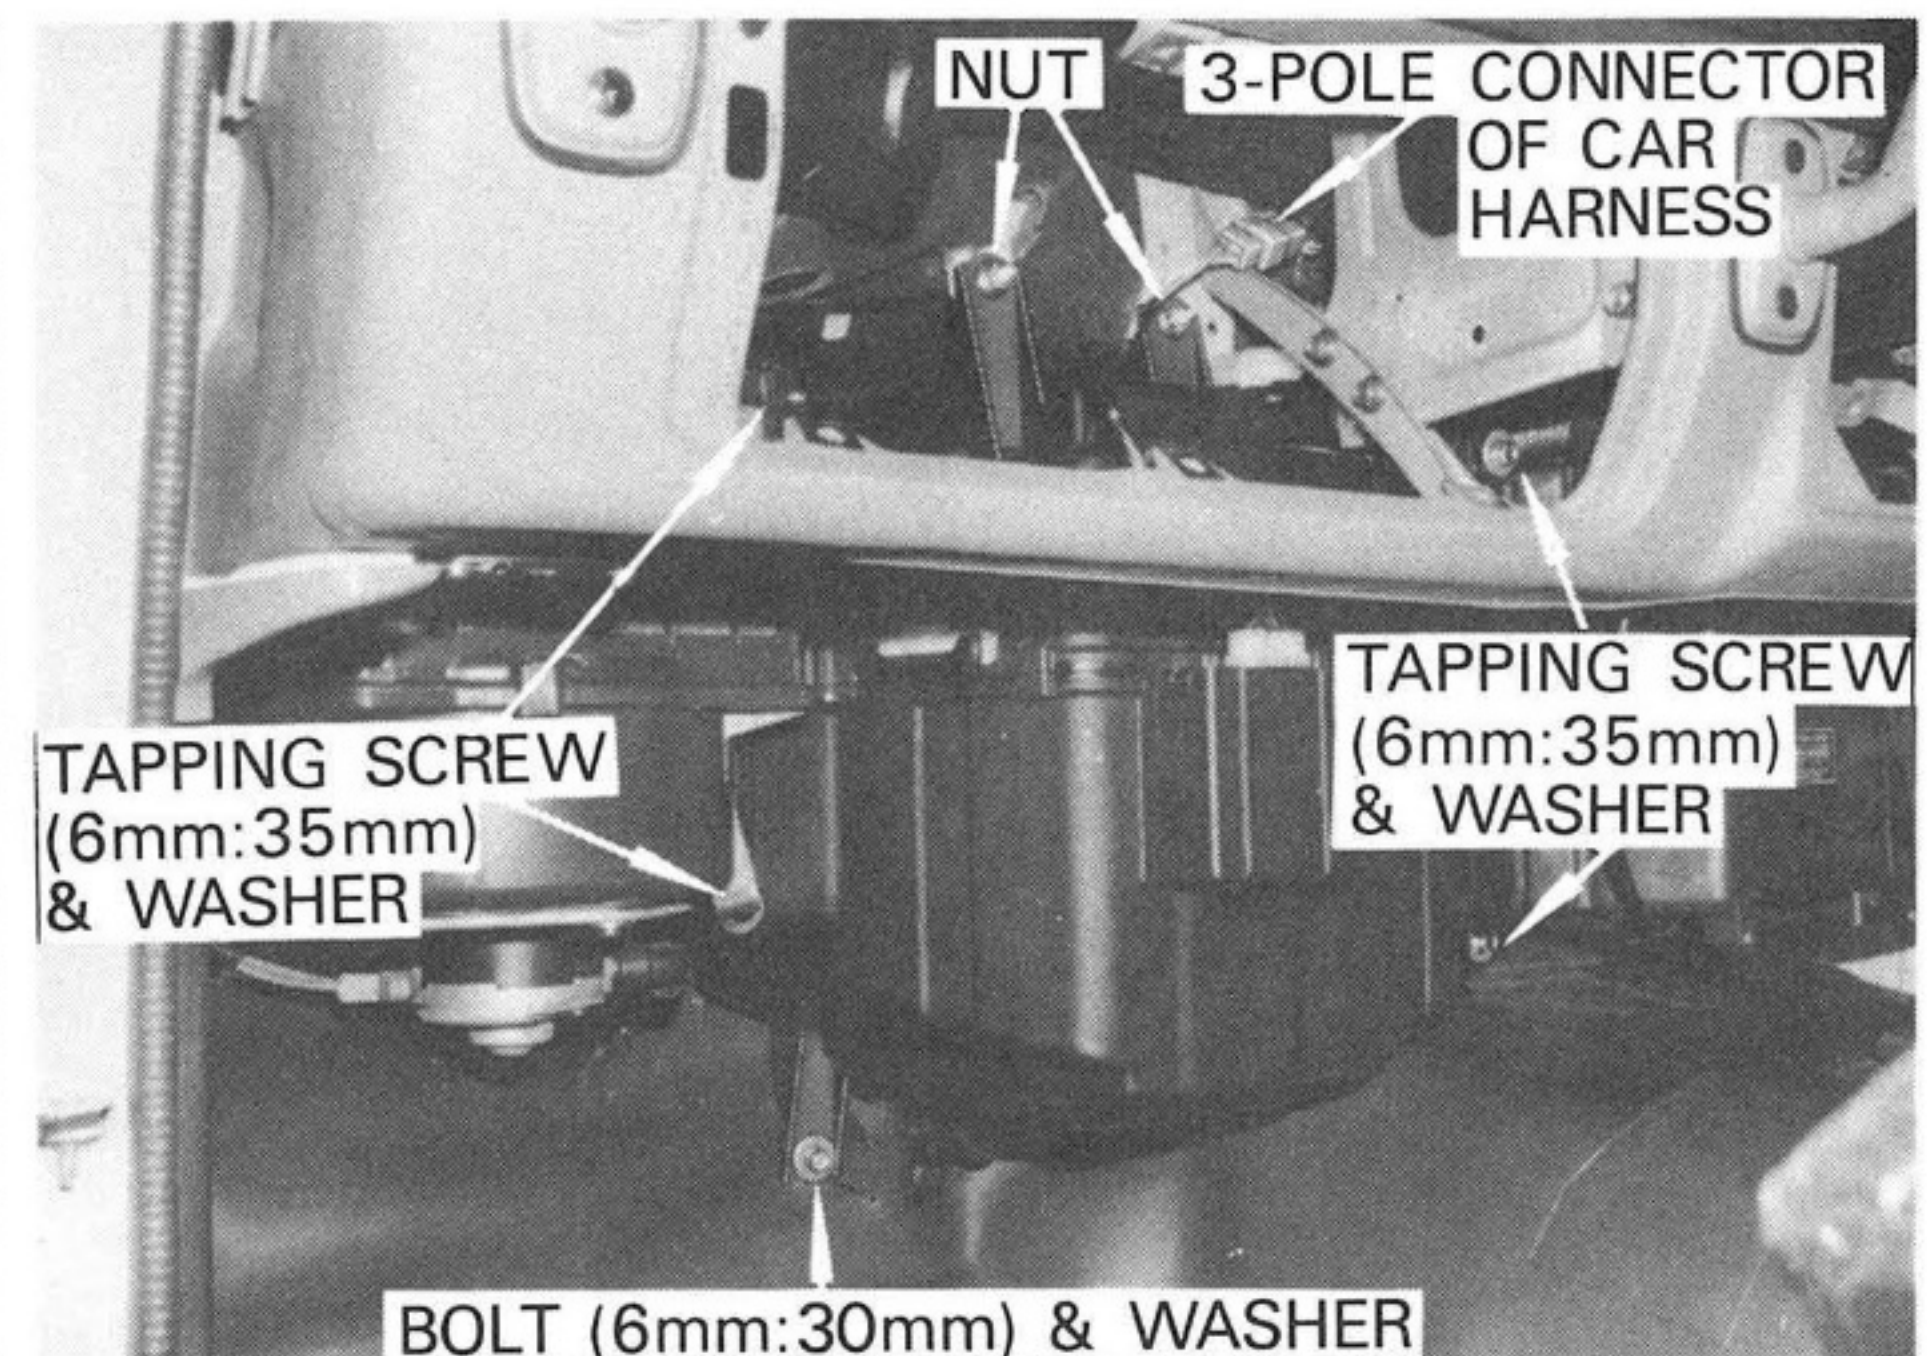

Fig. 7
D) Install the cooling unit using five bolts and two nuts. See Fig. 7.